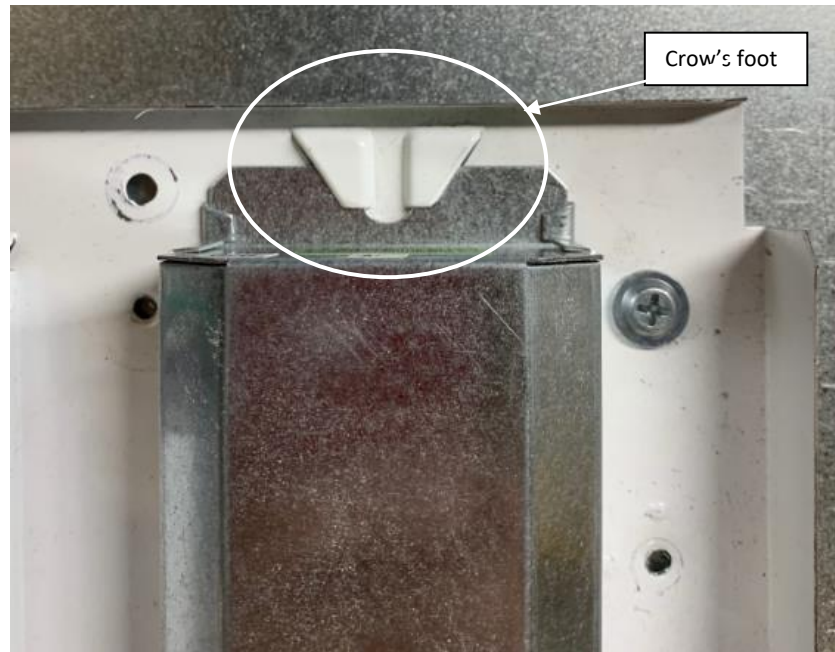
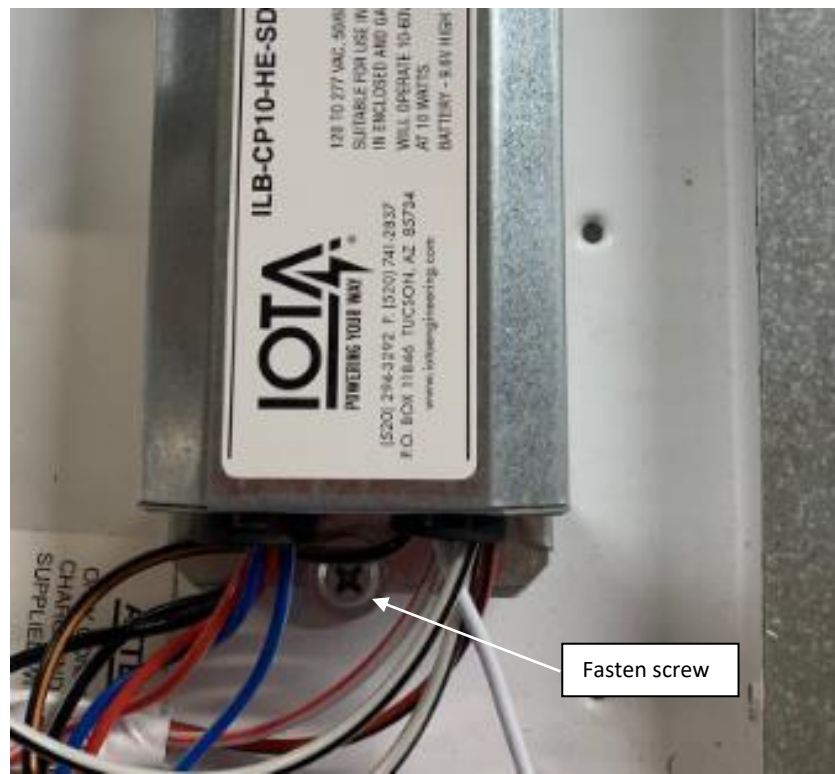

Figure 10: Attach one end of battery into crow's foot
Figure 11: Fasten the opposite end into the mating hole
3. Attach the emergency battery to the extension power plate by hooking one side of the battery flange into the crow's foot shown in Figure 10 and fasten on the opposite side into the mating hole shown in Figure 11.